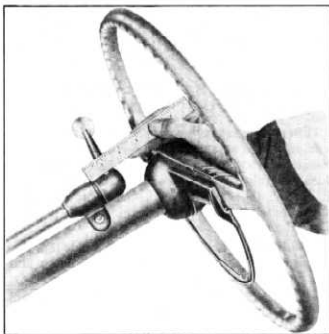

Fig. 3—Checking Gearshift Lever to Upper Support Clearance
1. Check clearance between gearshift lever and gearshift control upper support (fig. 3).